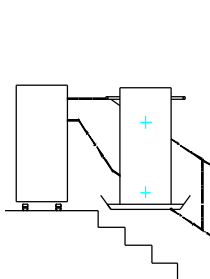
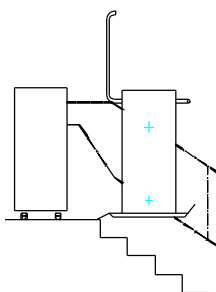

Fig. 1
Fig. 2
3. Press the hand lever for brake release and turn the hand wheel until the next station has been reached. The direction for moving the lift up is indicated on the hand wheel (fig. 1 shows the platform at the stop position)).
4. When the platform is positioned at a landing as illustrated in fig. 1, the barrier arm only on the side of the lift from which the platform is to be exited, may be forced upwards by hand. Refer to fig. 2.